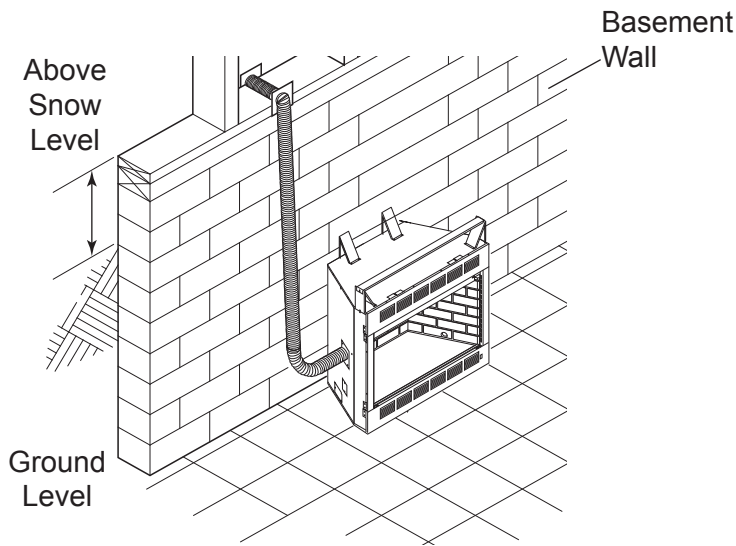

Figure 17 - Basement Installation
6. Avoid extremely long runs and numerous turns in the duct leading from the fireplace to the combustion air assembly. These conditions increase the resistance to the free flow of air through the duct. See Figures 17 through 20 for methods of installing the outside air for combustion assemblies.